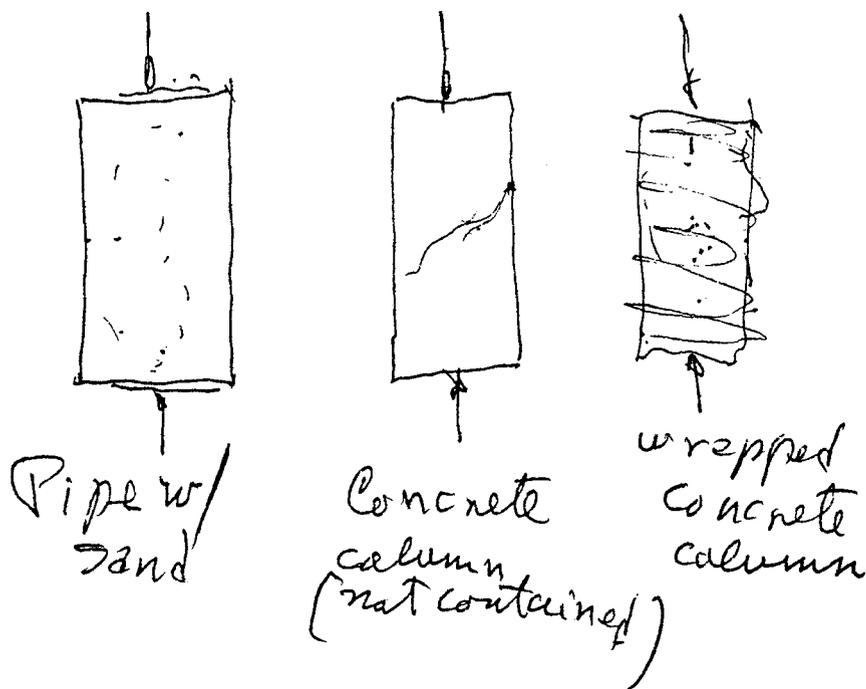

Figure 16
**Degenkolb:** Yes. It's a helix. It's something like a piece of 6" or 12" diameter steel pipe that is filled with sand, and then you put a load on it. It would carry a substantial load, as the pipe is containing the sand (Figure 16).